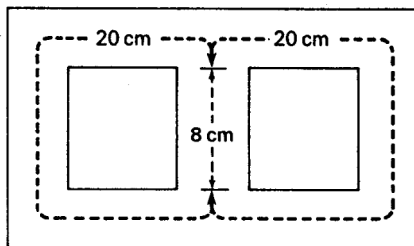

Figure 2
- The magnetic circuit in Figure 2 has a 200-turn coil wound on the left limb. The cross-sectional areas of the left limb, center limb and the right limb are 12 cm^2 , 8 cm^2 and 4 cm^2 , respectively. Given the following data for the iron circuit, calculate the current in the coil to give a flux of 0.88 mWb in the center limb. Neglect leakage and fringing.